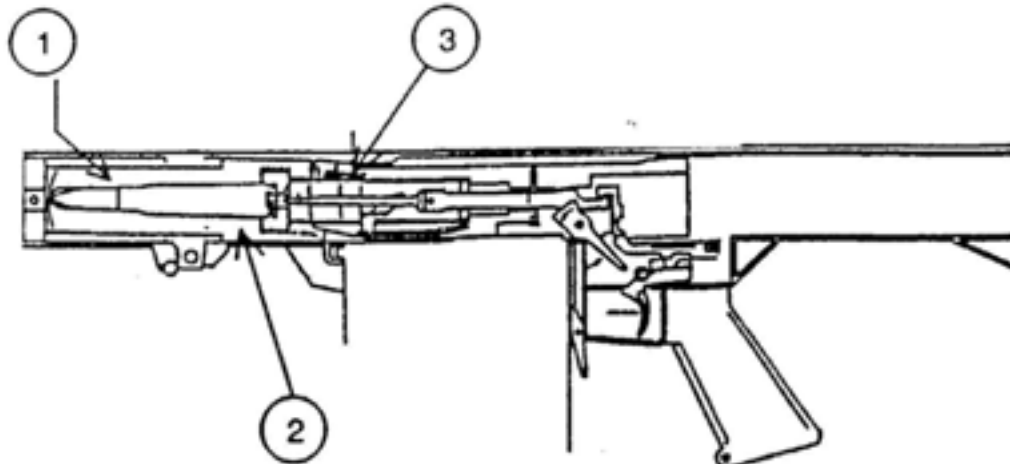

Figure 1-6. Chambering/Locking Procedure
1.3.3 CHAMBERING. The bolt forces the round fully into the firing chamber (1), Figure 1-6, and the extractor snaps over the case rim. Blockages such as dirt or other debris can prevent full chambering, as can dirty, bent, dented, or otherwise faulty ammunition.
1.3.4 LOCKING. During chambering, the bolt enters the barrel extension (2), Figure 1-6, and the bolt latch (3) engages the bolt latch trip (inside-top of the upper receiver, just behind barrel extension). The bolt latch is depressed, allowing the bolt to retract into the bolt carrier. The bolt rotates due to the cam slot and is locked when its three locking lugs rotate into place in the barrel extension, closing the firing chamber.